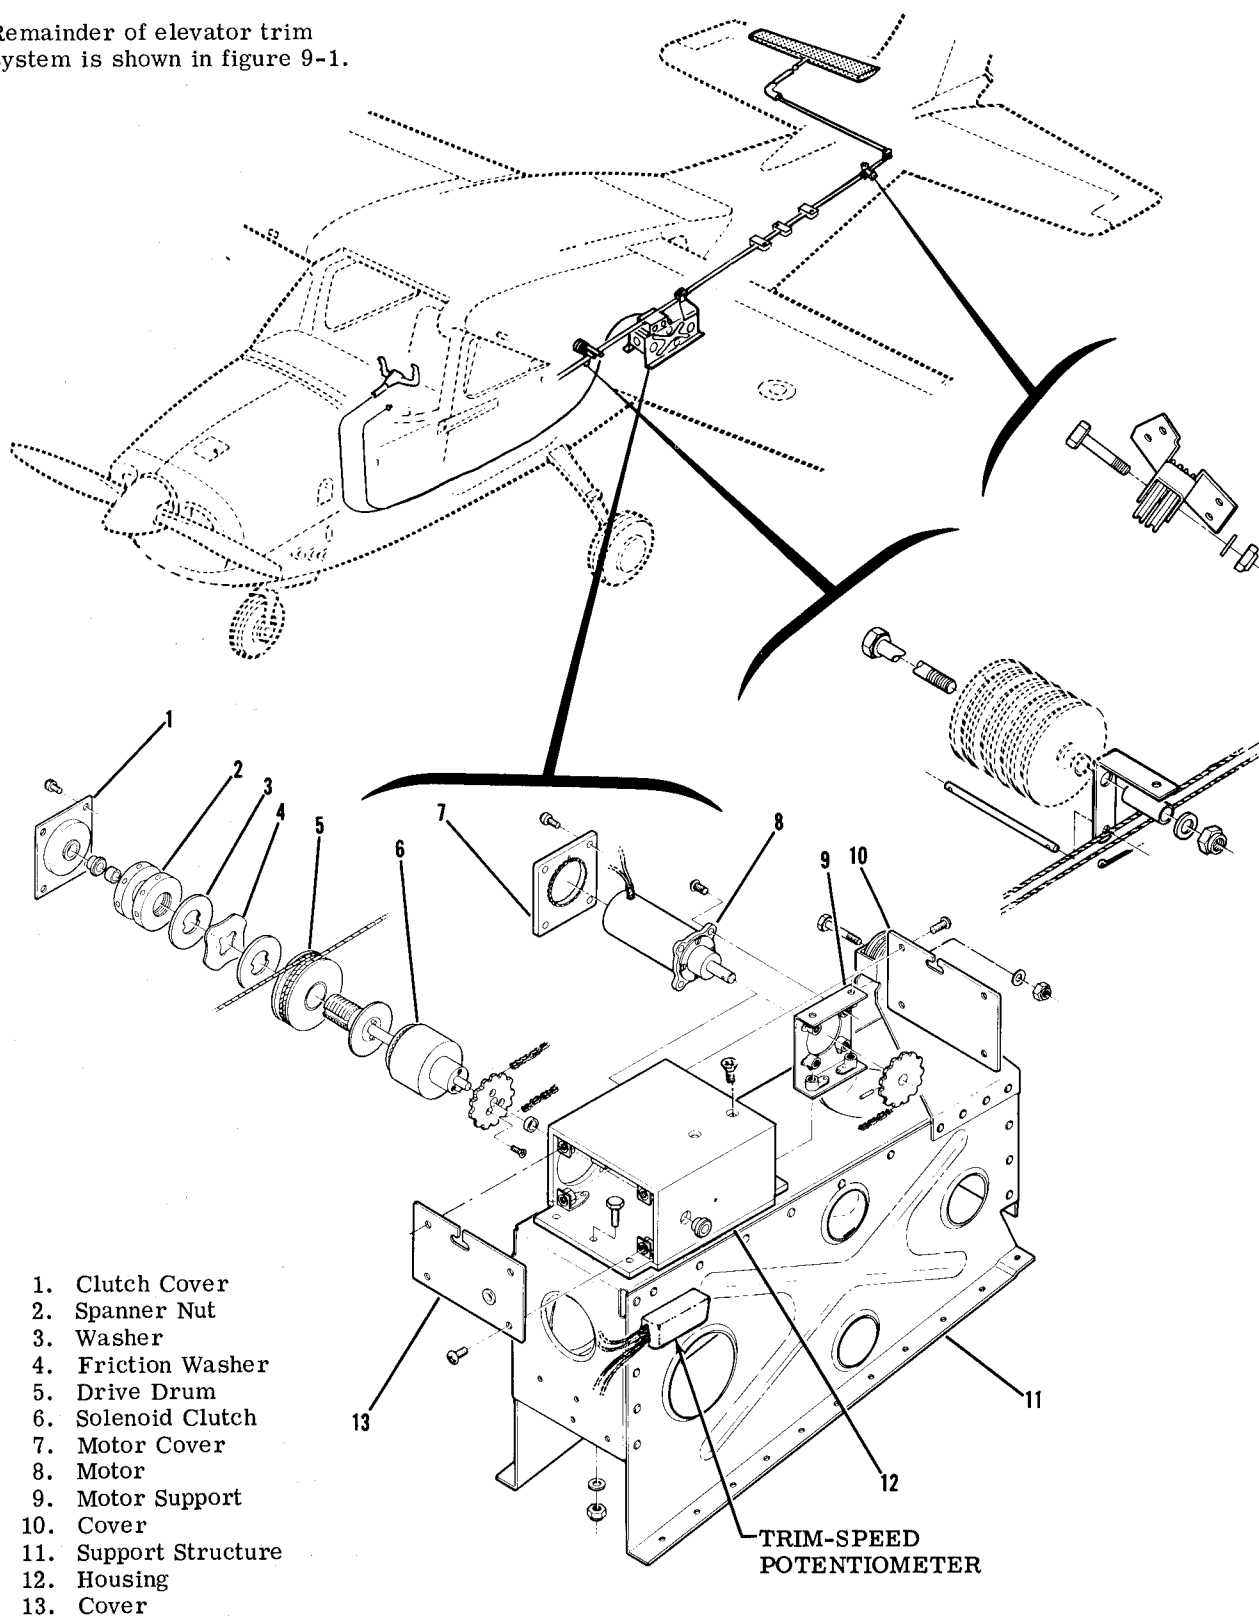

Figure 9-5. Electric Elevator Trim
g. Position stop blocks and adjust as shown in figure 9-5 to limit travel as noted in Section 1.
9-9. ELECTRIC TRIM SYSTEM. (See figure 9-5.)